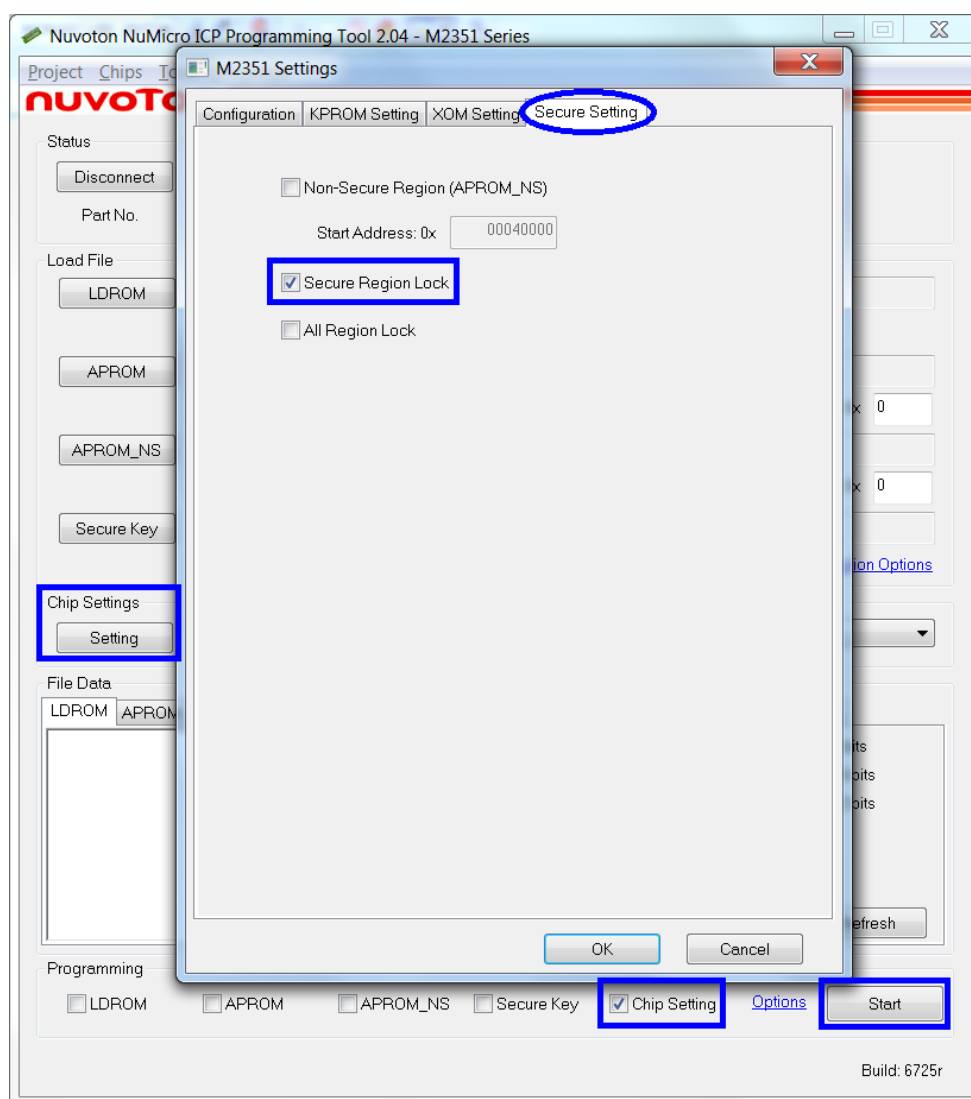

Figure 2-5 Setting Methods of NSCBA and SCRLOCK in ICP Programming Tool
1. Click [Setting] button under Chip Settings to open the Secure Setting page, as shown in Figure 2-5.